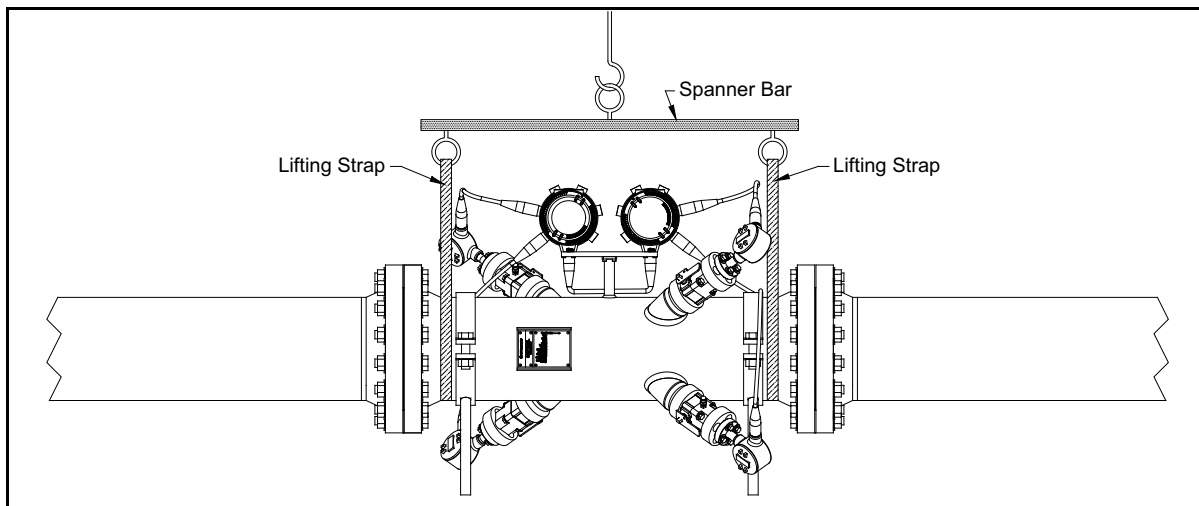

Figure 8: Lifting Strap Locations
**CAUTION!** To avoid possible strain, refer to the Sentinel label for the assembly weight, use a properly-rated lifting assembly, and place the lifting straps in the indicated locations (see Figure 8 below).